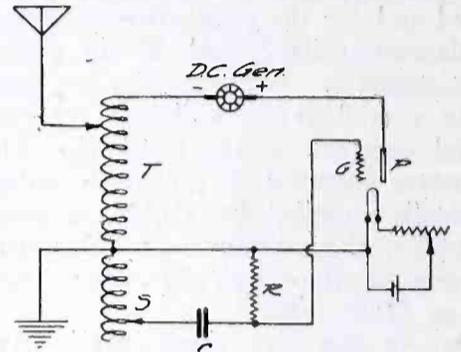

Fig. 76. Hartley Circuit with Tickler Coil in Antenna Circuit
possible. The grid current itself, however, is fairly small, and as a matter of economy and convenience, the grid coil, *S*, is generally removed from the antenna circuit, as in Fig. 76. In this circuit, the grid coil may be wound with smaller wire.
76. The resistance of transmitting grid leaks varies from 5,000 to 12,000 ohms, depending upon the design and the capacity of the transmitter tube. In Fig. 76, the antenna circuit is tuned by varying the slider on the coil *T*.